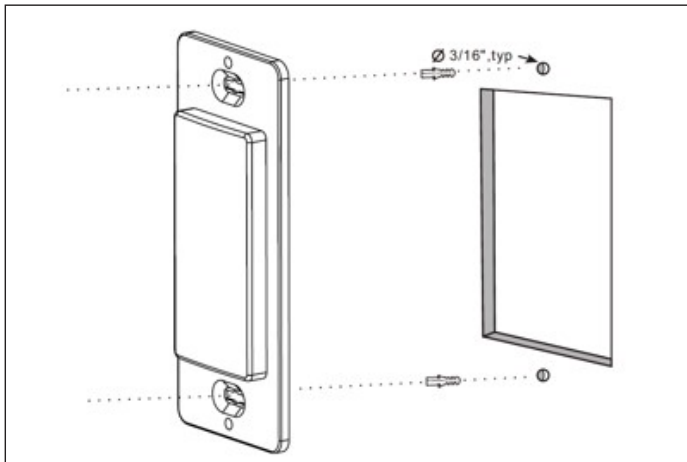

Figure 2: Mounting Holes
5. Temporarily place the control over the hole and mark mounting screw hole locations. See Figure 2.